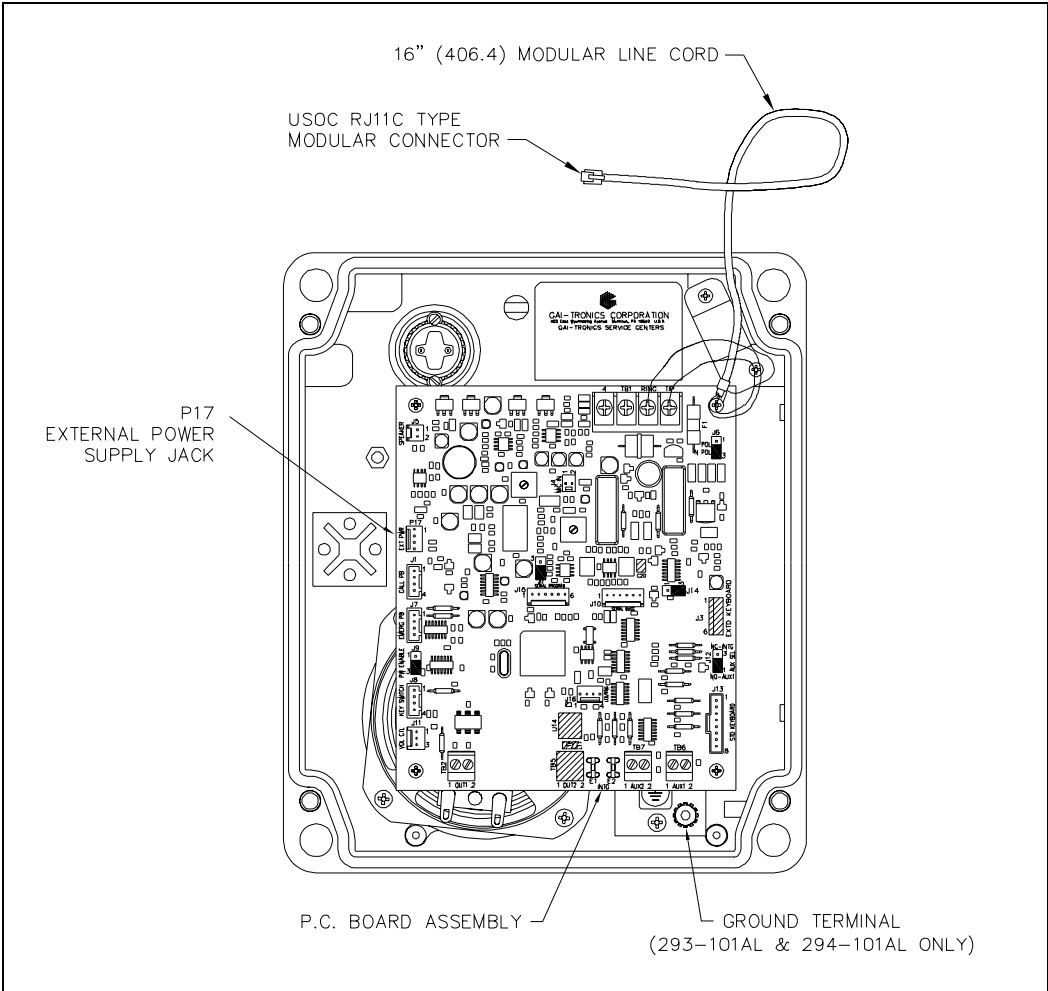
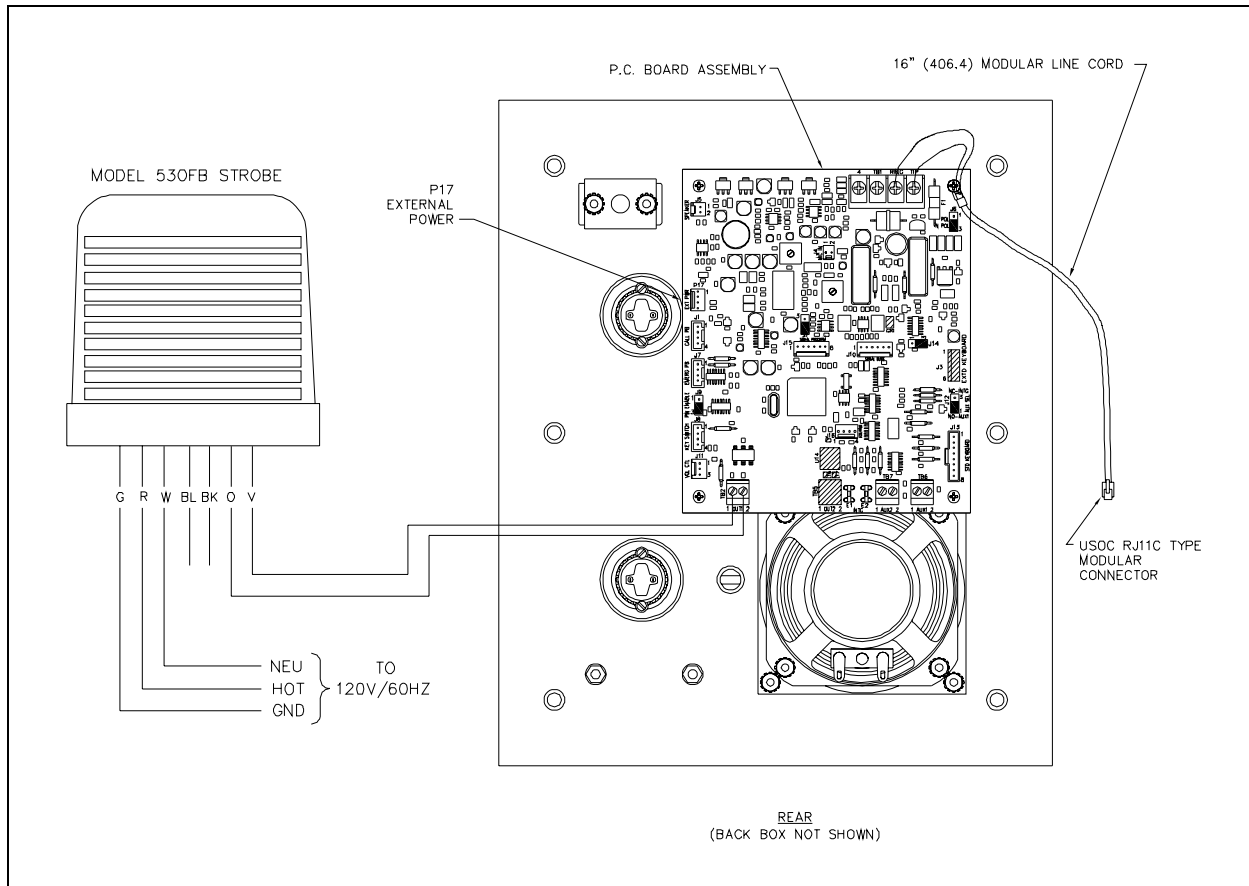

Figure 8. Model 293-101, 293-101AL, and 294-101AL Component Locations
Figure 12. Model 297-101 and 298-101 Component Locations
5. Connect the telephone's modular plug to a USOC RJ11 or CA11A (Canada) modular connector or (if applicable) the telephone line suppressor. Refer to Figure 8 for the Model 297-101 and 298-101 component locations. Telephone line connections directly to TB1 are acceptable.
Figure 12 above shows a typical connection detail of the GAI-Tronics 530FB/531A Beacon (sold separately).
The telephone can be programmed remotely from a telephone, or locally at the telephone. To program the Model 294-101AL and Model 298-101 locally, the front panel keypad can be used. However, to program the 293-101, 293-101AL, and 297-101 models locally, a Model 51035-011 Keypad must be connected to J13 on the telephone PCBA using the Model 51504-048 Keypad Cable Assembly. Refer to Figure 8. See the Local Programming section on page 16.
1. Connect keypad to connector J13. See Figure 8 and Figure 12 for details. Contact GAI-Tronics Field Service Department for details.